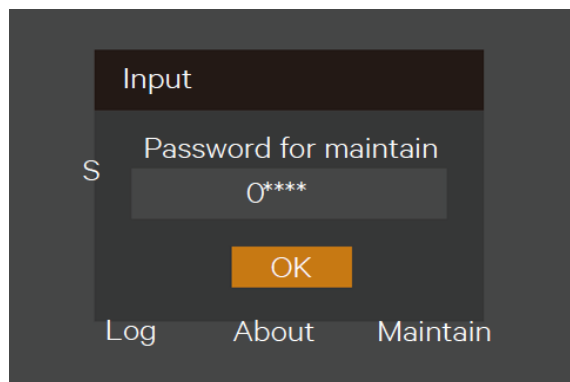

Figure 5-17 Inputting password
2. Press the  key, the interface shown in Figure 5-17 will appear.